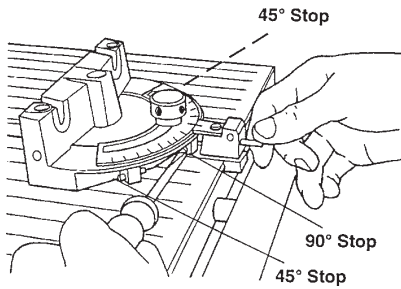

Figure B-85
54. Use a small screwdriver to back out the 90° stop screw 2 to 3 turns, as shown in Figure B-85.